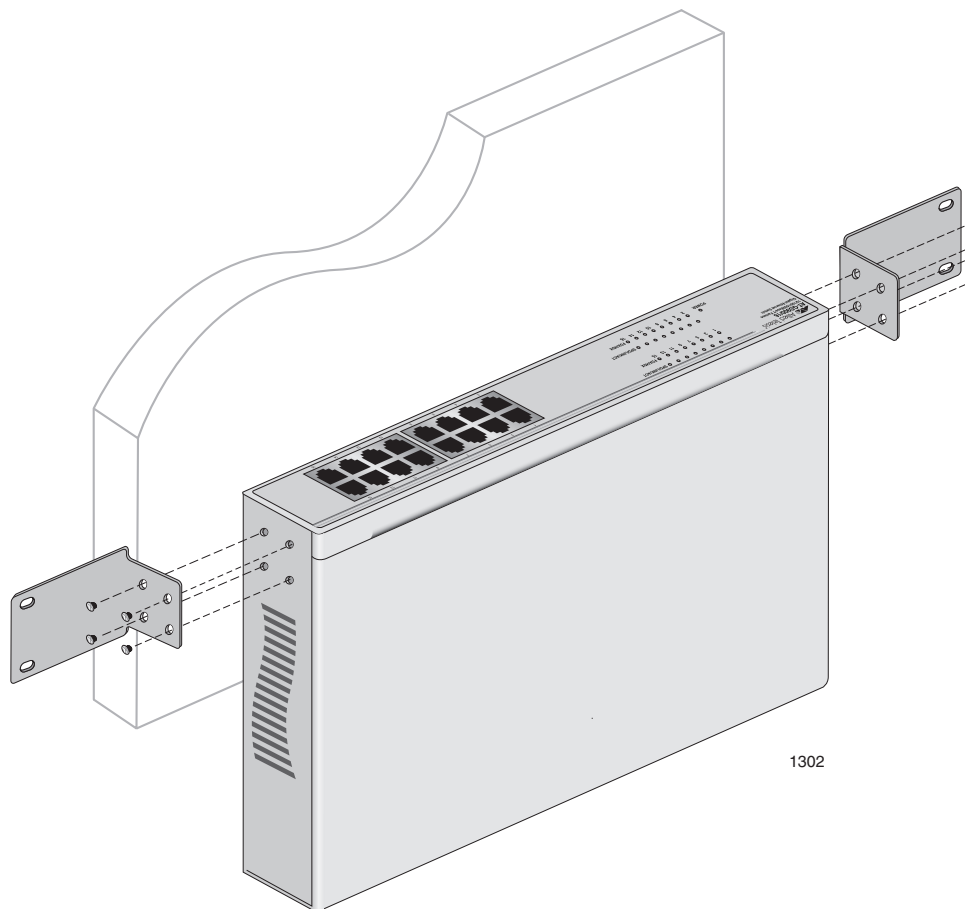

Figure 7. Attaching the brackets to the sides of the switch
2. Attach the two rackmounting brackets (provided) to the sides of the switch using the eight flathead Phillips screws (provided), as illustrated in Figure 7.